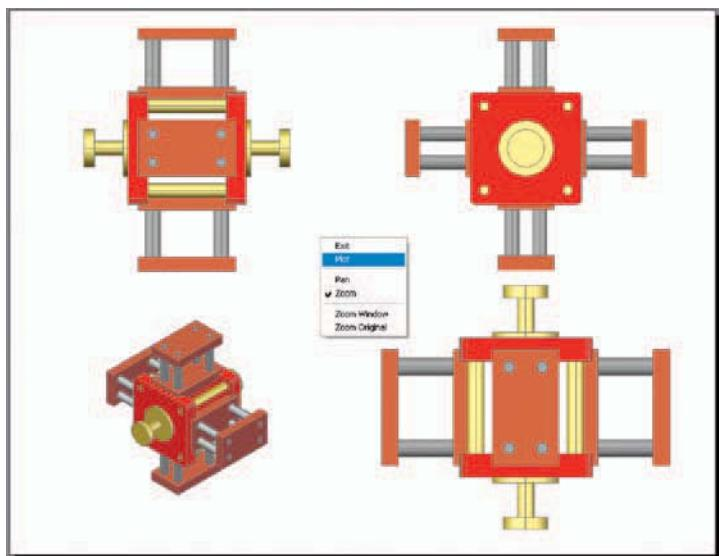

Fig. 15.46 Second example – multiple view copy
Second example – multiple-view copy (Fig. 15.46)
6. If the preview is satisfactory (Fig. 15.46), *right-click* and from the right-click menu *click Plot*. The drawing plots to produce the required four-viewport hardcopy.